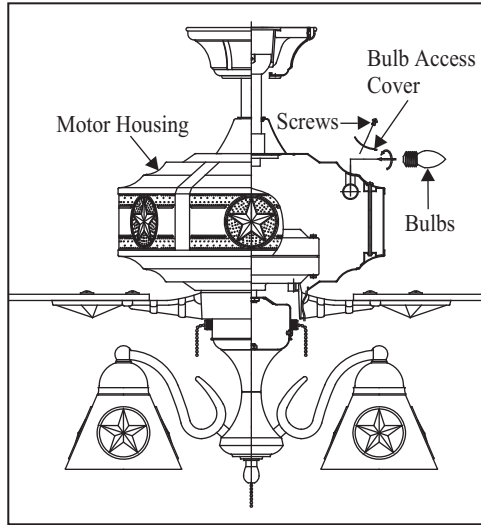

Figure 22
1. Remove the 2 screws from the bulb access cover and take the bulb access cover off from the top decorative housing as shown in Figure 22.